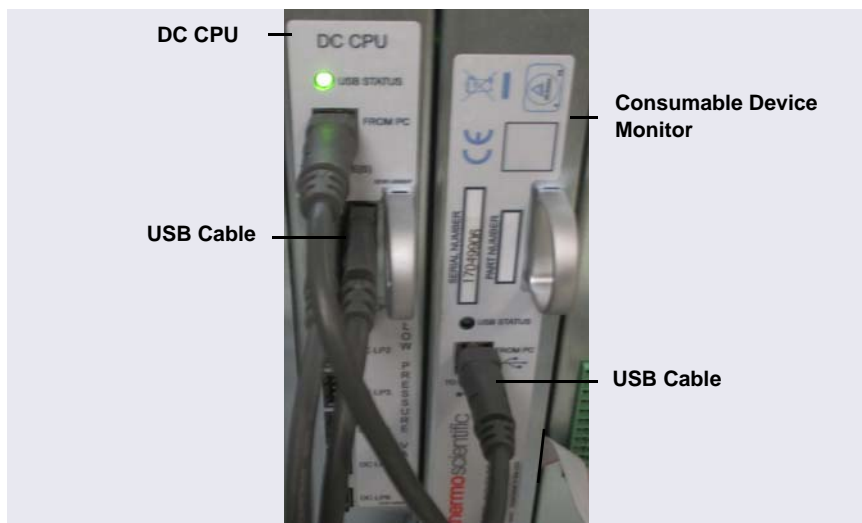

Figure 3-11. Consumable Device Monitor Connected to CPU Board
11. Locate the USB port on the Consumable Device Monitor and the two USB ports on the DC CPU board (see Figure 3-11).